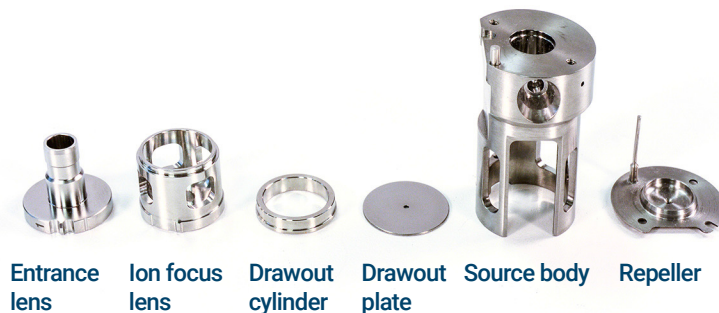

Figure 35. Axial CI ion source parts to be cleaned
- 2 Collect the following parts to be cleaned: (See **Figure 35**, "Axial CI ion source parts to be cleaned," on page 118.)